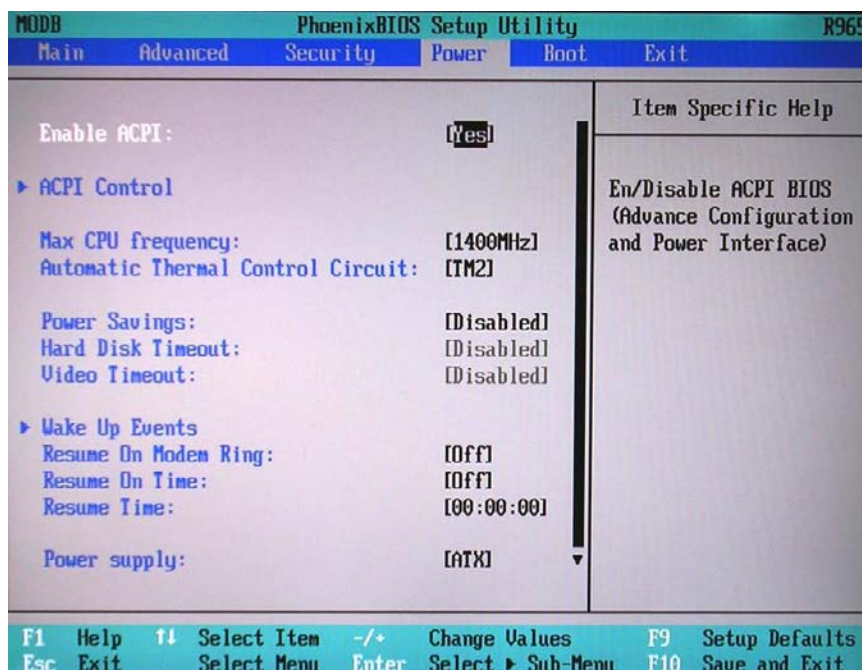

Figure 8-67 BIOS Power Parameters
Power	Figure 8-67 on page 8-77
- 6.) Set the parameters in the **Power** screen as shown above in Figure 8-67.